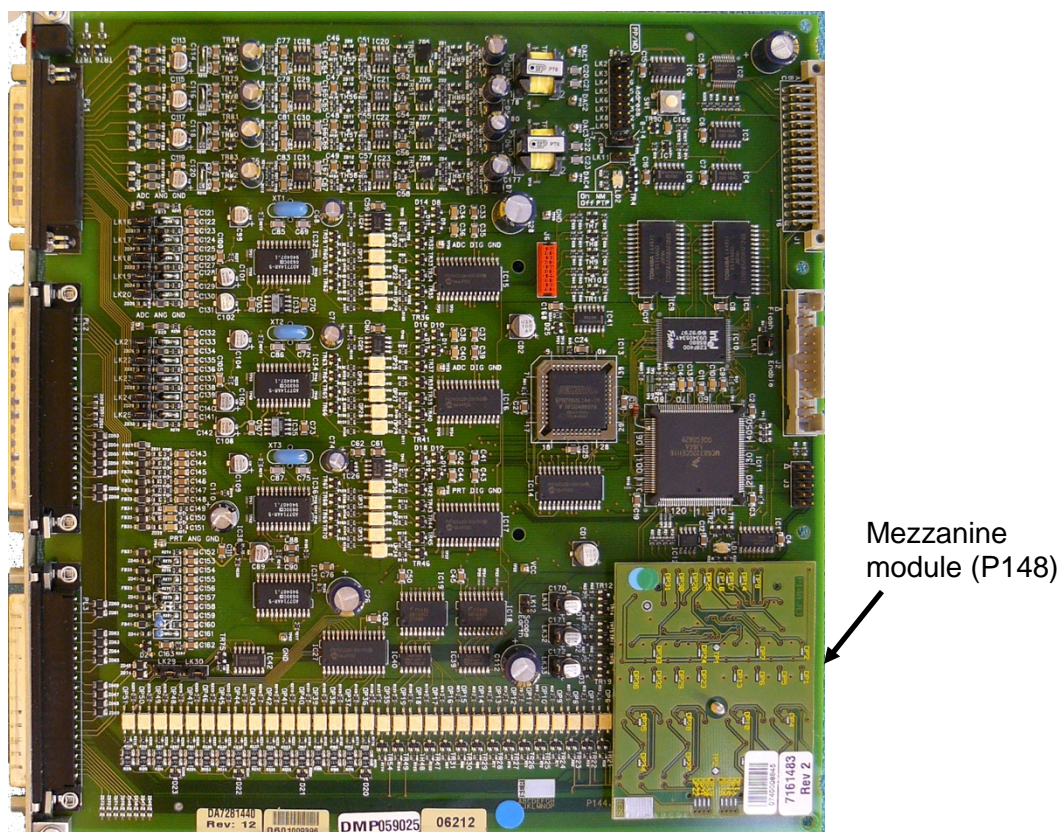

Figure 4-2. Example I/O Module (with Mezzanine Module)
The I/O module (P144) measures process signals the CPU uses while running the flow computer functions. The module provides 12 analogue inputs (AI), 4 analogue outputs (AO), 16 digital inputs (DI), 12 digital outputs (DO), 4 pulse inputs (PI), 5 pulse outputs (PO), 3 frequency (density) inputs, and 3 PRT/RTD inputs. Refer to *Figure 4-2* for the I/O module terminations.